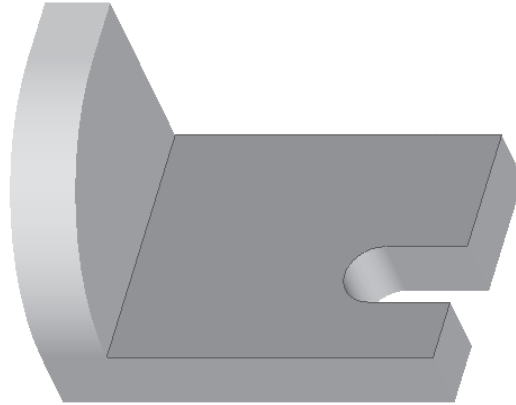

Figure 4-83 Face selected to be at the top
5. Select the top face shown in Figure 4-83 and then select the **Top** option from the **Orientation** drop-down list. Now, the top face of the base feature is selected to be at the top while drawing the sketch.